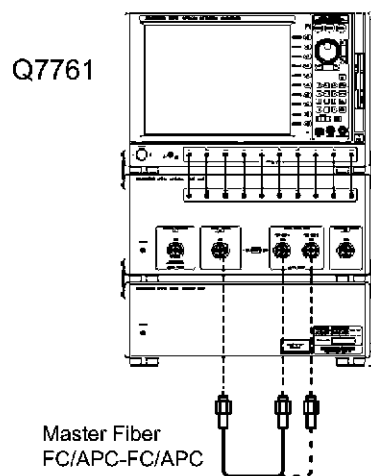

Figure 2-3 Connection for Dynamic Range (Dispersion Mode) Test
1. Connect equipment as shown in Figure 2-3. First, connect the “OPTICAL SIGNAL OUTPUT” with “TEST PORT 1”, using the master fiber.